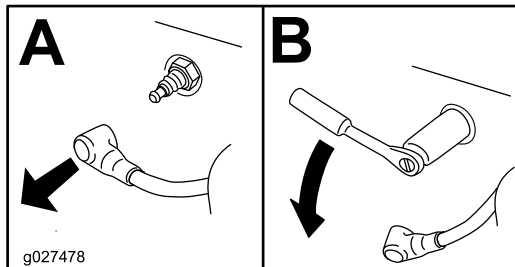

Figure 40
4. Remove the spark plug (Figure 40).